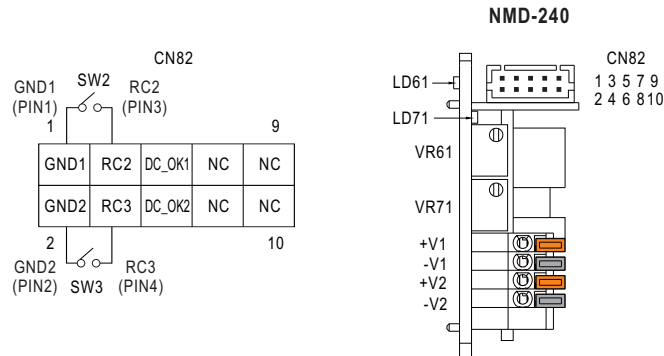

Figure 5-6
- ◎ Figure 5-6 shows RC2 (CN82 PIN3) to GND1 (CN82 PIN1) and RC3 (CN82 PIN4) to GND2 (CN82 PIN2) connection diagram.